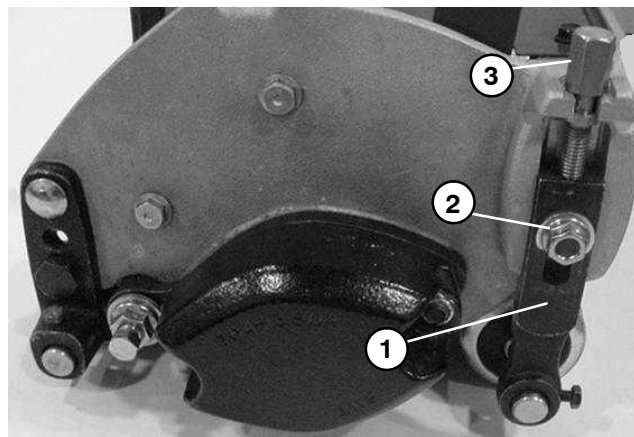

Figure 17
3. Loosen locknuts securing height-of-cut arms to cutting unit side plates (Fig. 17).
8. Tighten both lock nuts to secure the height-of-cut adjustment (Fig. 17).